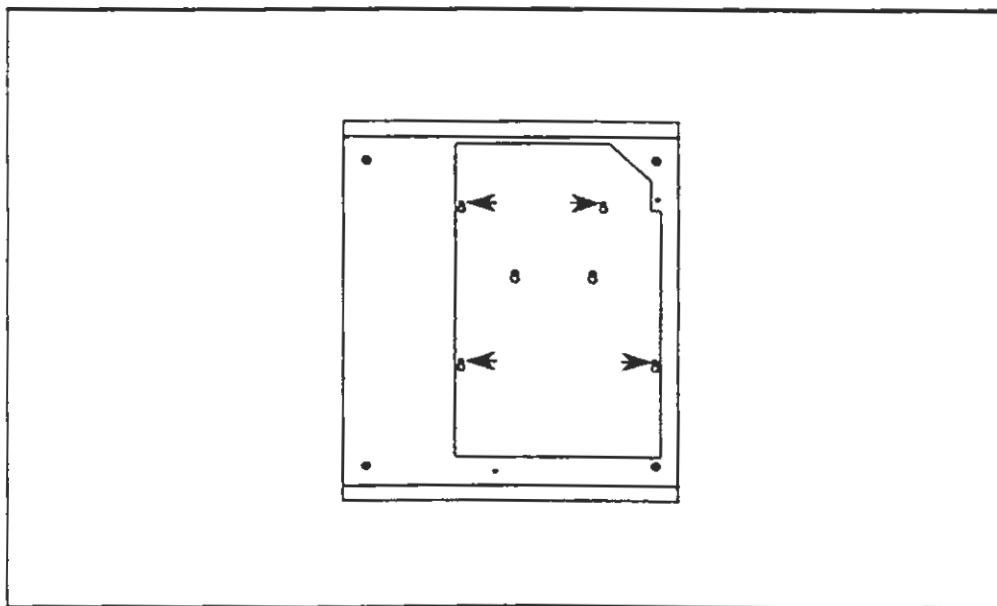

Figure 3. Air Duct Cover Plate
3. Remove the air duct cover plate by loosening the four screws and lifting the plate off. See Figure 3.
1. Reinstall the air duct cover plate and secure with the four screws. See Figure 3.